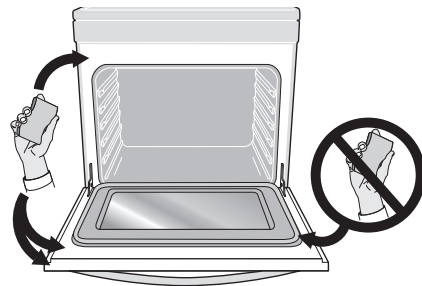

Figure 35: Areas to clean and to avoid
- Clean any soil from the oven frame, the door liner outside the oven door gasket, and the small area at the front center of the oven bottom (Figure 35). These areas heat sufficiently to burn soil on. Clean using soap and water prior to starting Self Clean.